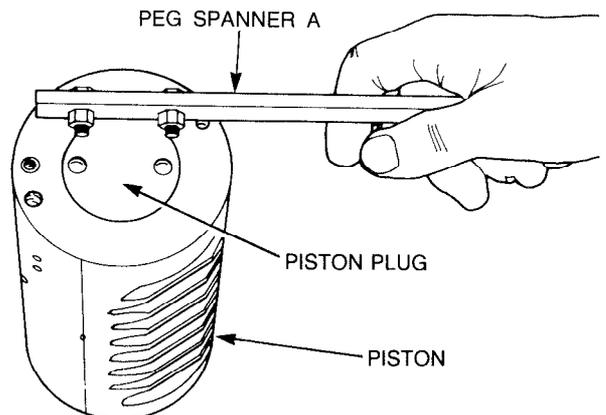

Figure 302 — Piston Plug — Removal
- h. Using special peg spanner A, remove both piston plugs from the piston (see Fig. 302), then remove and discard the O-rings and teflon seal rings.